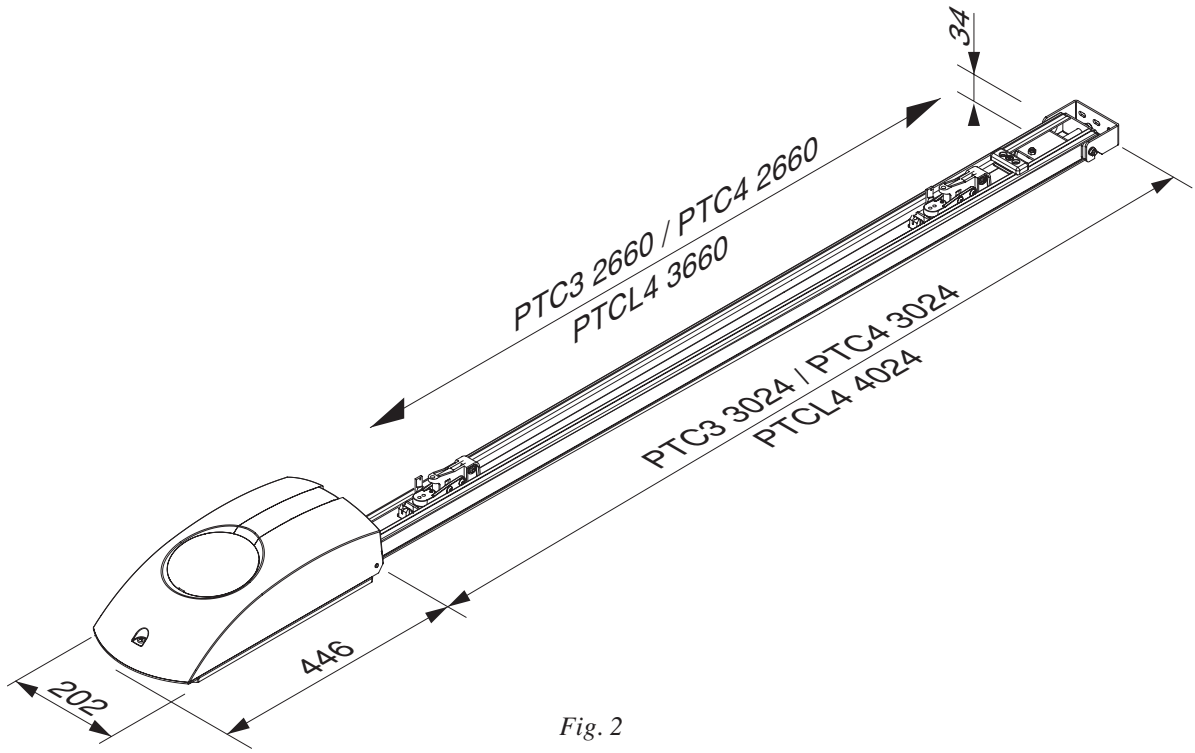

Fig. 2
**JM.3 (600Nm)** and **JM.4 (1200Nm)** to which the following tracks can be matched (fig.2):